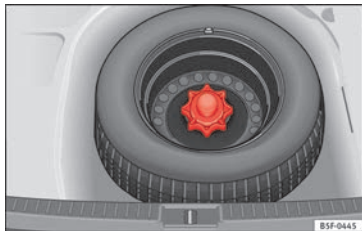

Fig. 248 Compact temporary spare wheel: raised floor panel.
- Lift and hold up the floor panel to remove the temporary spare wheel » **Fig. 248**.